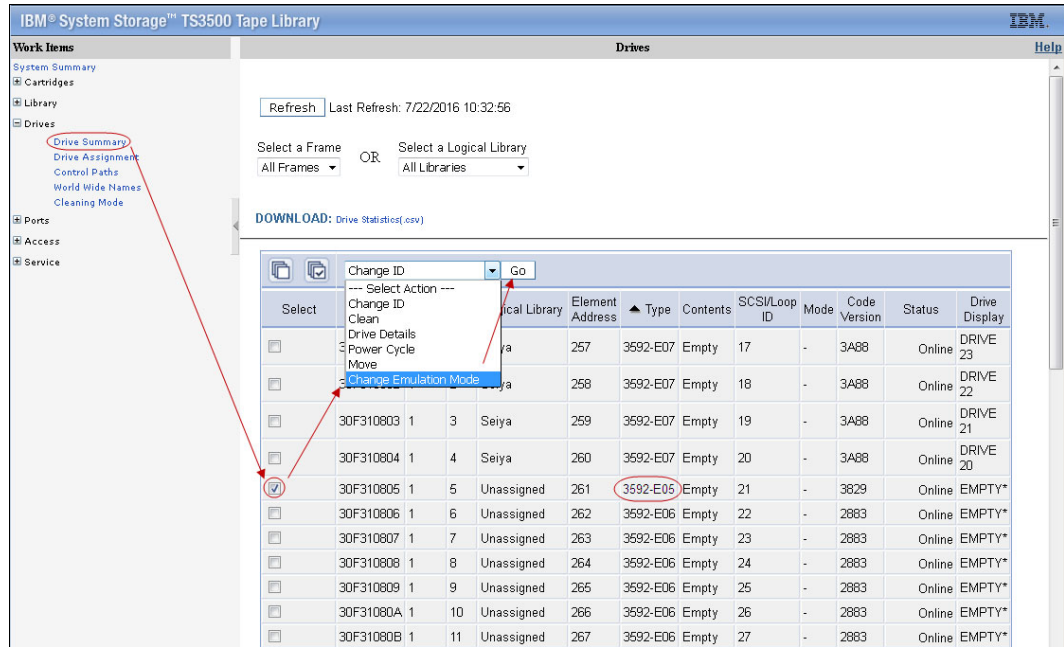

Figure 9-154 Change the drive emulation
- If necessary, change the drive mode to Native mode (3592-E05 only). In the Drives summary window, select a drive and select **Change Emulation Mode**, as shown in Figure 9-154.